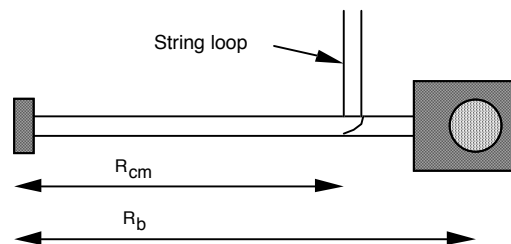

Figure 9.1
- ① Latch the pendulum at 90° so it is out of the way, then load the projectile launcher. Allow the pendulum to hang freely, and move the angle indicator to zero degrees.
- ② Fire the launcher and record the angle reached. If you want to do the experiment with a lower or higher angle, add or remove mass to the pendulum. Repeat these test measurements until you are satisfied with the mass of the pendulum.
- ③ Once you have chosen the mass to use for your experiment, remove the pendulum from the base by unscrewing and removing the pivot axle. Using the mass balance, find the mass of the pendulum and ball together. Record this value as M in table 9.1.
- ④ Measure the mass of the ball, and record this as m .
- ⑤ Tie a loop in the string, and hang the pendulum from the loop. (See figure 9.1) With the ball latched in position in the ball catcher, adjust the position of the pendulum in this loop until it balances. Measure the distance from the pivot point to this balance point, and record it as R_{cm} . You may find it easier to do this by balancing the pendulum on the edge of a ruler or similar object.
- ⑥ Measure the distance between the pivot point and the center of the ball. Record this as R_b .
- ⑦ Replace the pendulum in the base, making sure that it is facing the right way. Be sure that the angle indicator is to the right of the pendulum rod.
- ⑧ Remove the launcher so that the pendulum can swing freely. With the ball in the pendulum, give it an initial displacement of 5° or less. Using the stopwatch, time how long it takes to go through at least ten oscillations. Divide this time by the number of oscillations, and record your result as T in table 9.1.
- ⑨ Calculate the value of I, and record it in table 9.1.
- ⑩ Load the launcher, then set the angle indicator to an angle 1-2° less than that reached in step 2. This will nearly eliminate the drag on the pendulum caused by the indicator, since the pendulum will only move the indicator for the last few degrees.
- ⑪ Fire the launcher, and record the angle reached by the pendulum in table 8.1. Repeat this several times, setting the angle indicator to a point 1-2° below the previous angle reached by the pendulum each time.